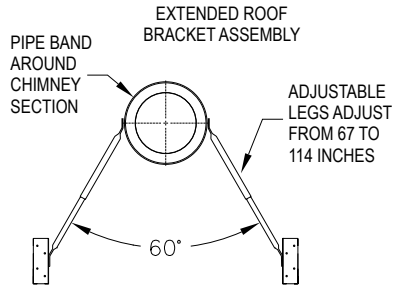

Figure 16
(**Figures 16 & 17 in the Extended Roof Bracket section**). If you are located in heavy snow country, it is recommended that a Snow Splitter be installed. The Snow Splitter can be purchased from DuraVent or fabricated locally
2. Attach the Legs: The Adjustable Legs of the assembly will adjust from 67" to 114". Secure one end of each Leg to the Pipe Band using the nuts and bolts included (2 per Leg). Position the Adjustable legs so they form approximately a 60° angle with the chimney, and with each other (**Figures 16 and 17**). Be sure that there is at least 3" of overlap between the top and bottom halves of the Adjustable Leg. In order to secure Legs in proper position, there is a hole provided in the outer leg where the outer and inner halves overlap. Use a 1/4" drill bit to drill through the inner leg at that location. Use the nut & bolt provided to pin the Adjustable Legs in position.
3. Install Roof Brackets: Mount the two Roof Brackets where each of the Adjustable Legs meets the roof, using (4) 1" roofing nails or screws per bracket. Seal the nail heads carefully with a non-hardening, waterproof sealant. Attach the bottom end of the